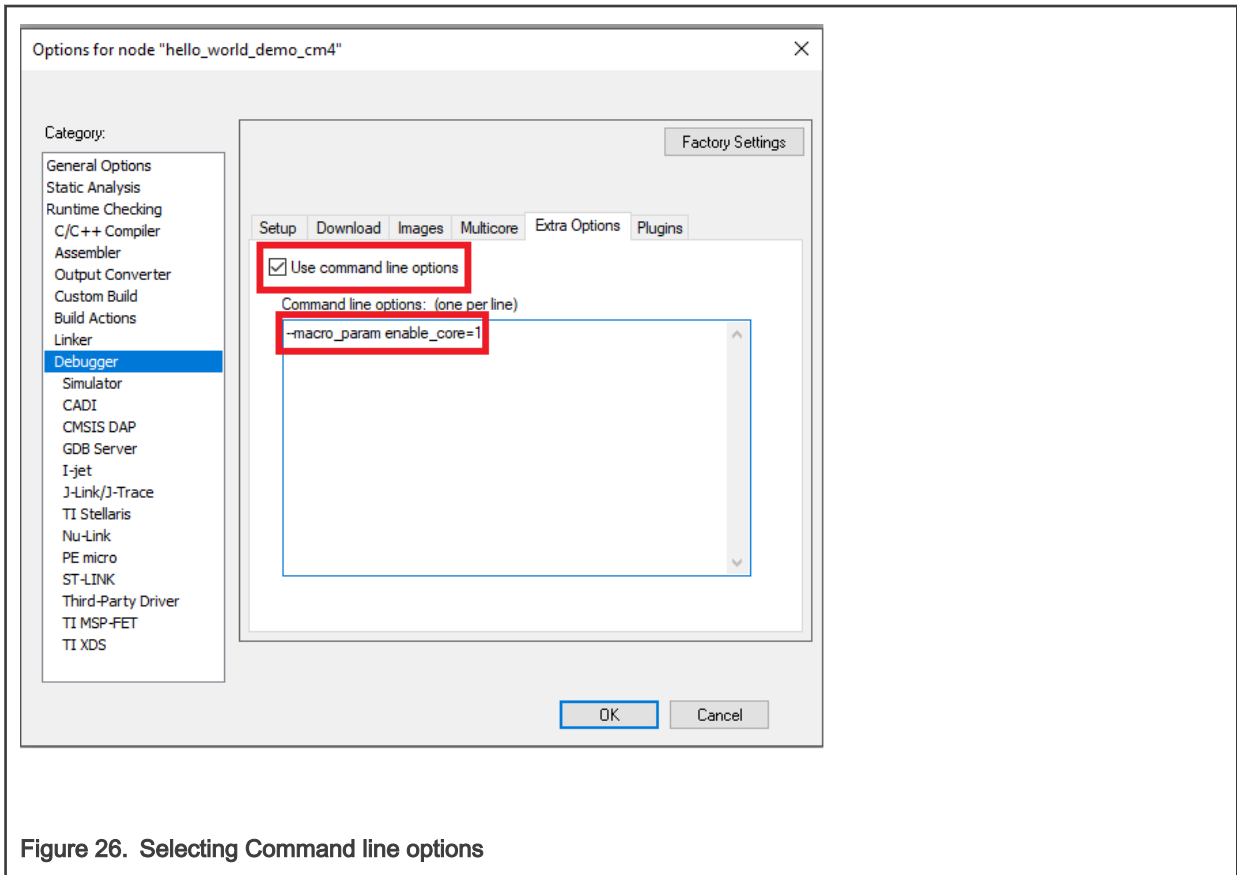

Figure 26. Selecting Command line options
- When using CMSIS-DAP to debug cm4 project on IAR, an extra option needs to be specified in debugger settings. Check and fill in `--macro_param enable_core=1` in **Debugger -> Extra Options -> Command line options**, as shown in Figure 26.